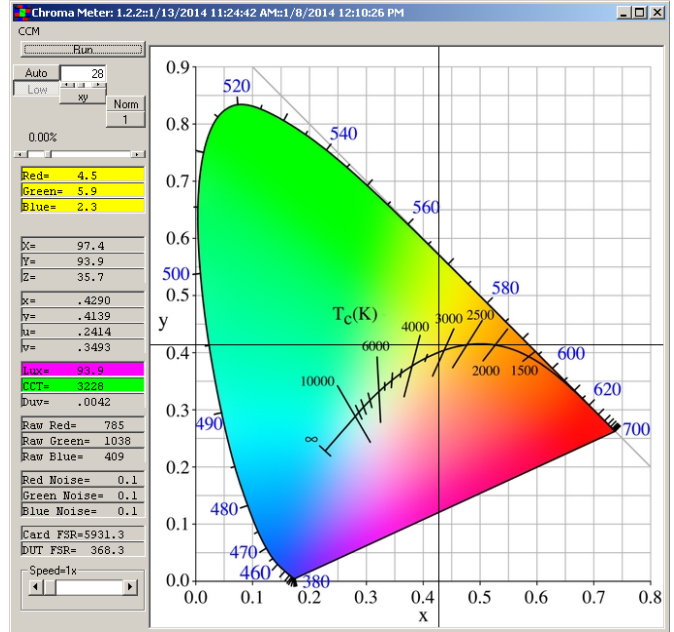
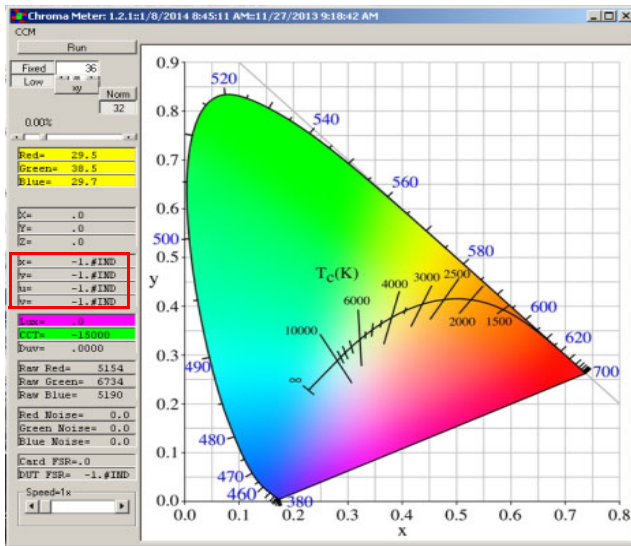

FIGURE 9. CHROMA TEST GUI
FIGURE 12. USB CONNECTED ERROR OR EEPROM FILE DOES NOT LOAD
- C) Once "ChromaMeter" is clicked, the window displayed in Figure 9 should open. If it does not display cross-points in the Chromaticity diagram on the right and numbers on the left panel of GUI, then check your connections. If the problem still persists, then you may want to restart the software. Figure 12 shows the error message that displays if the evaluation board is improperly attached.
- D) Figure 9 shows an example using the ISL29125. Please note that all demonstrations within this document use the ISL29125.
16. Speed: Allows the user to select the number of ADC bits and the speed of the conversion. Details shown in Figure 9.